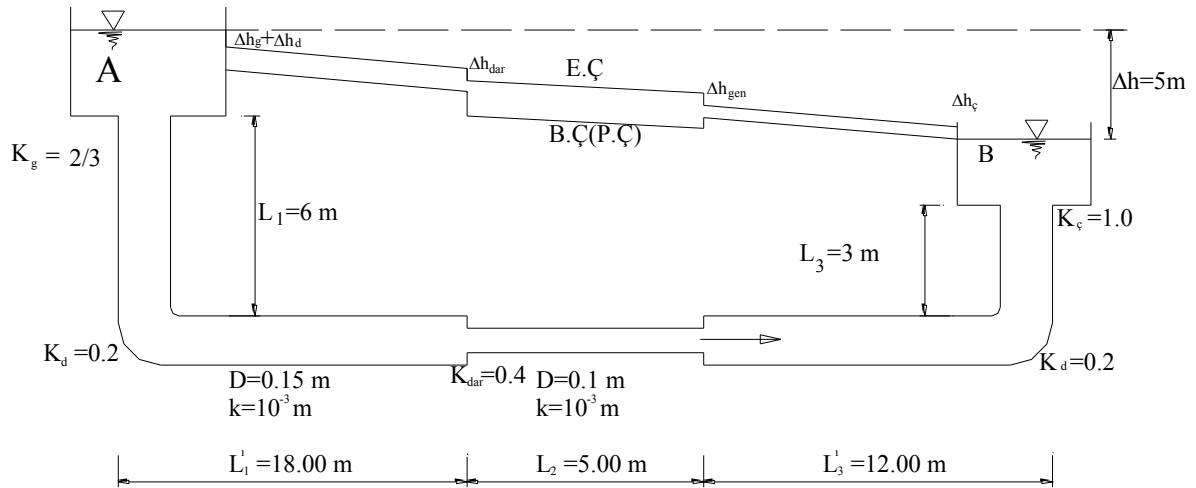

Figure 7.6
**Problem 7.6:** Water flows from the reservoir A to reservoir B in the Figure 7.6. The elevation difference between the reservoirs is  $\Delta h=5.00 \text{ m}$ . Find the discharge. Draw the energy and hydraulic grade line. ( $g=10 \text{ m/s}^2$ ,  $\nu=10^{-6} \text{ m}^2/\text{s}$ )